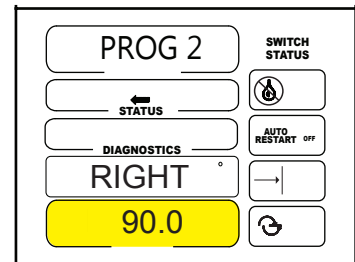

Figure 58-4
4. Set the right angle of the sector. See figure 58-4.